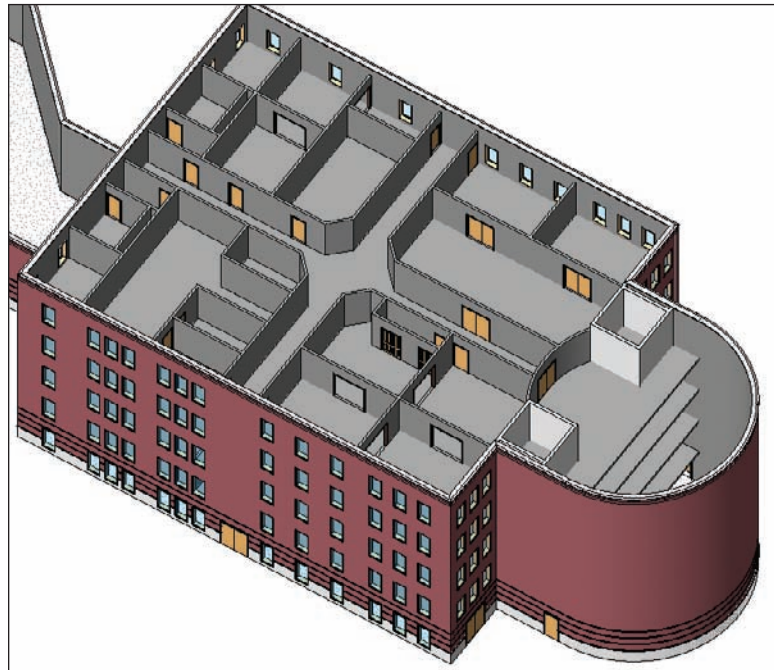

FIGURE 6.32 The completed floor placement
6. Click OK. The floors will be pasted to the specified levels, as shown in Figure 6.32.